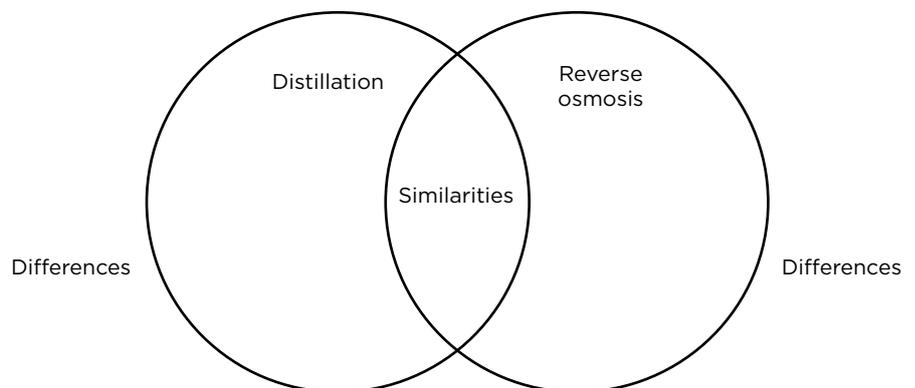

Figure 1 Compare and contrast chart
B. From the information provided in the video, ask students to compare and contrast distillation and reverse osmosis. Students could use a compare and contrast chart by drawing two intersecting circles (Figure 1). Play the video segment again so that the students can capture the key points.